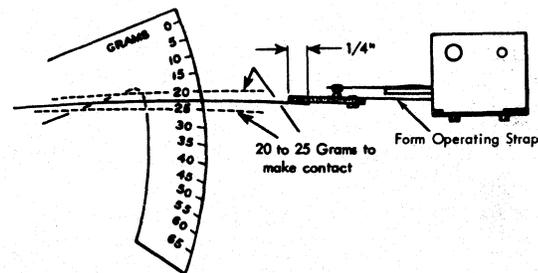
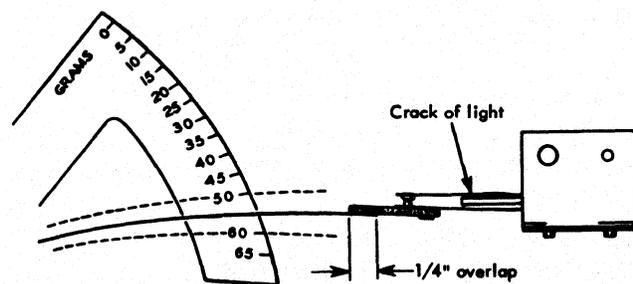

Figure 34. Interposer Bail Contact Adjustment
Figure 35. Interposer Bail Contact Adjustment
2. With contact assemblies removed, form operating strap near the mounting to require 20 grams to 25 grams to close contacts (Figure 34). Place gram gage finger under phenolic pad with 1/4-inch overlap when checking adjustment; 50 grams to 60 grams should then be required to close contact and to raise stationary contact off support strap (Figure 35).